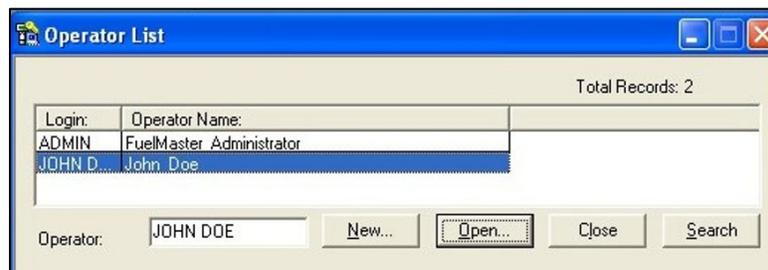

Figure 7 Operator List
5. Select the **Operator Name** that needs the permission change followed by **Open** (Figure 7). A new window will open with the heading **Operator Name:** and the name of the selected operator.